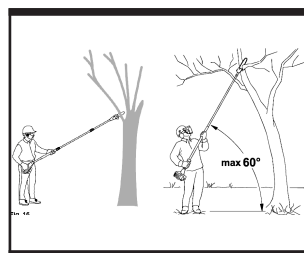

Fig. 12a
1). Always hold the pruner firmly with both hands using the soft grip. Fully grip both handles at all times during operation. Never operate this pruner using only one hand. Always hold the pruner at an angle of max. 60° from the horizontal level. Otherwise safe operation is not possible. (See Fig.12a)